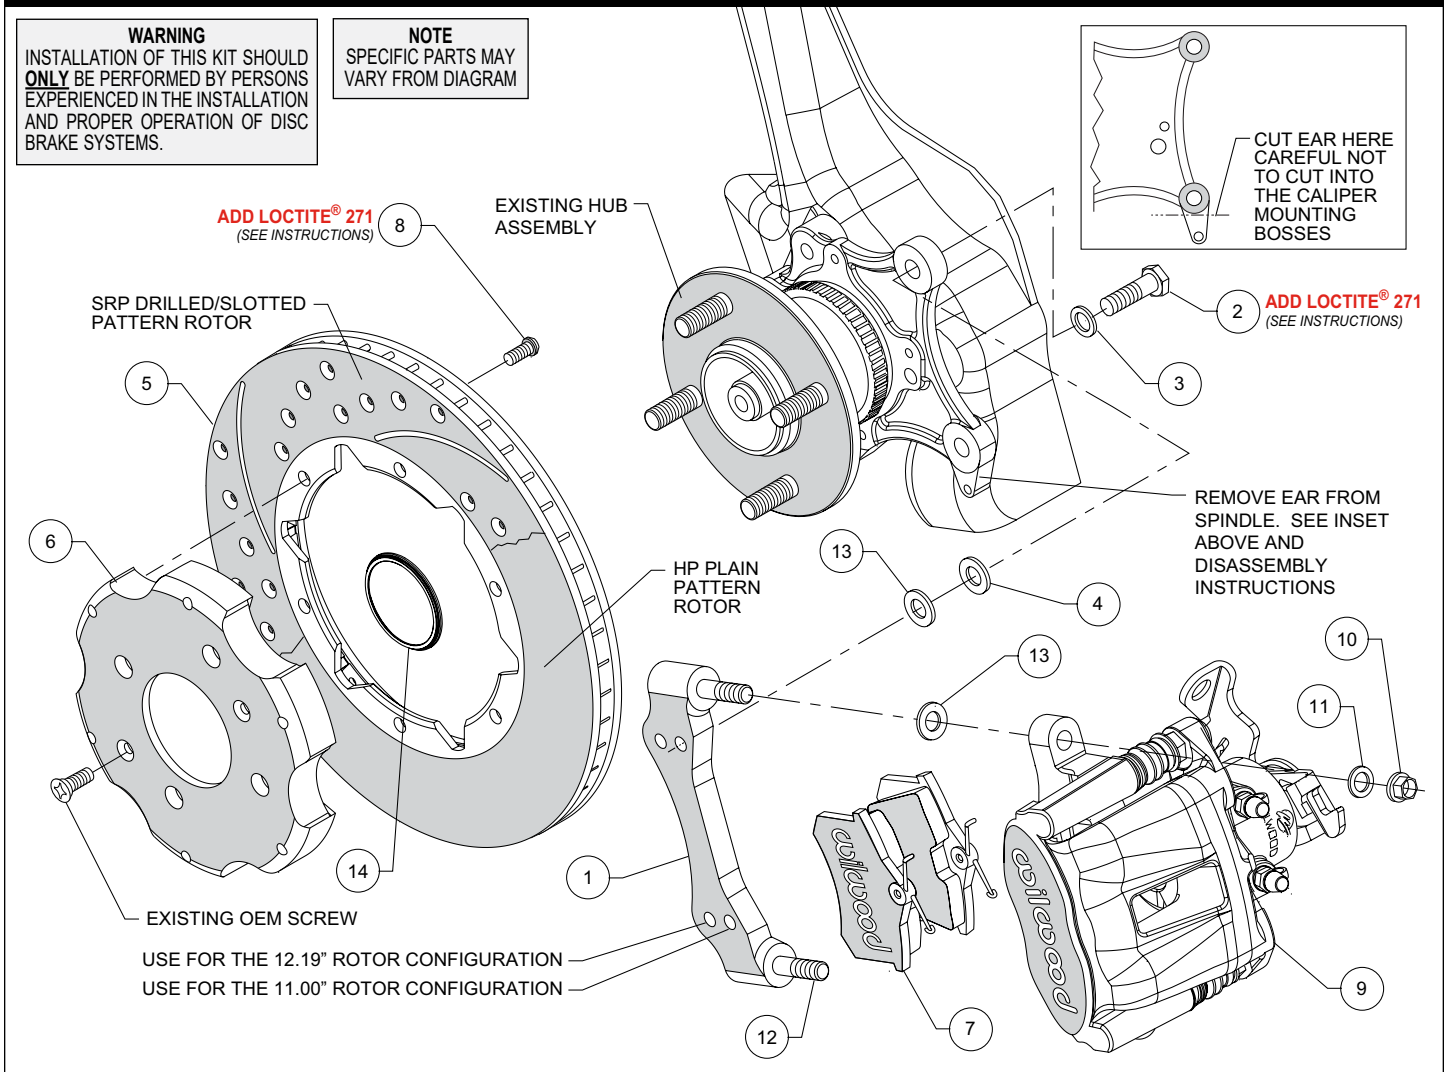

Figure 1. Typical Installation Configuration
• **NOTE:** This modification should be performed and completed before assembly of the Wilwood disc brake kit begins. To properly install the Wilwood caliper bracket, the small mounting ear located by the lower caliper mounting boss must be removed by cutting or grinding as shown in Figure 1 and Photo 2. Remove only enough material to allow flush mounting of the Wilwood bracket to the upright.
• The caliper mounting bracket (1) should initially be installed with clean, dry threads on the mounting bolts. Orient the bracket as shown in Figure 1 and Photo 5, and install using bolts (2) and washers (3). Initially place one .016" thick shim (4) and one .035" thick shim (13) between the bracket and upright, Figure 1 and Photo 4. Temporarily tighten the mounting bolts. **NOTE:** The bracket must fit squarely against the mount bosses on the upright. Inspect for interference from casting irregularities, machining ridges, burrs, etc. Later, after the caliper alignment has been checked, the mount bolts will be secured using red *Loctite*® 271.
• Orient the rotor (5) and hat (6) as shown in Figure 1 and Photo 6. Attach the rotor to the hat using bolts (8). Using an alternating sequence, apply red *Loctite*® 271 to the threads, and torque to 25 ft-lbs.
• Slide the rotor registration adapter (14) onto the axle register on the axle hub with the smaller O.D. facing outward, Photo 7.
• Install the brake pads (7) into the caliper (9) from the bottom, with the friction material facing the rotor, until the "v" spring clip snaps into place against the anvil, as shown in Figure 1 and Photo 8. They should install easily without interference.
• Initially place two .035" thick shims (13) on each stud as shown in Figure 1. Mount the caliper (9) onto the bracket (1) using lock nuts (10) and washers (11), Figure 1 and Photo 9. Temporarily tighten the lock nuts and view the rotor from the end of the caliper. The rotor should be centered in the caliper, Photo 10. If not, adjust by adding or subtracting shims (4 and/or 13) between the bracket and the upright. Always use the same amount of shims on each of the two mounting bolts. Once the caliper alignment is correct, remove the bracket mounting bolts (2) one at a time, apply red *Loctite*® 271 to the threads, and torque to 35 ft-lb.